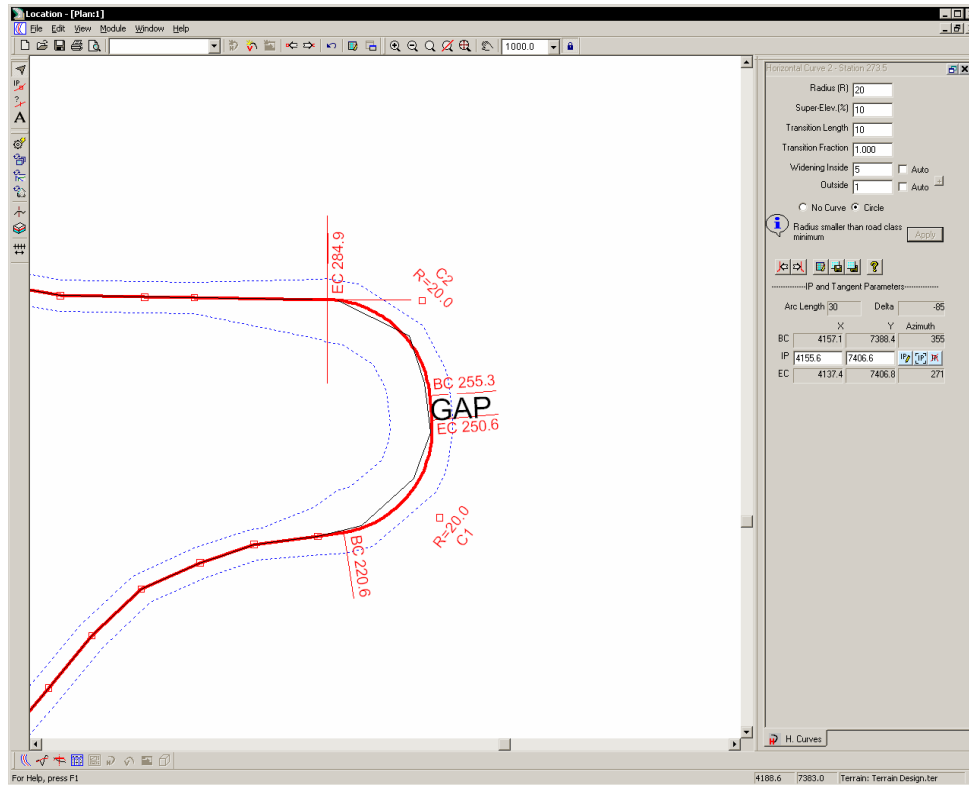

Figure 5.20: Two Curves of 20 Meter Radius
10. Press the *Get Default Curve*  button and press *Apply*. The screen should look similar to the Figure 5.20